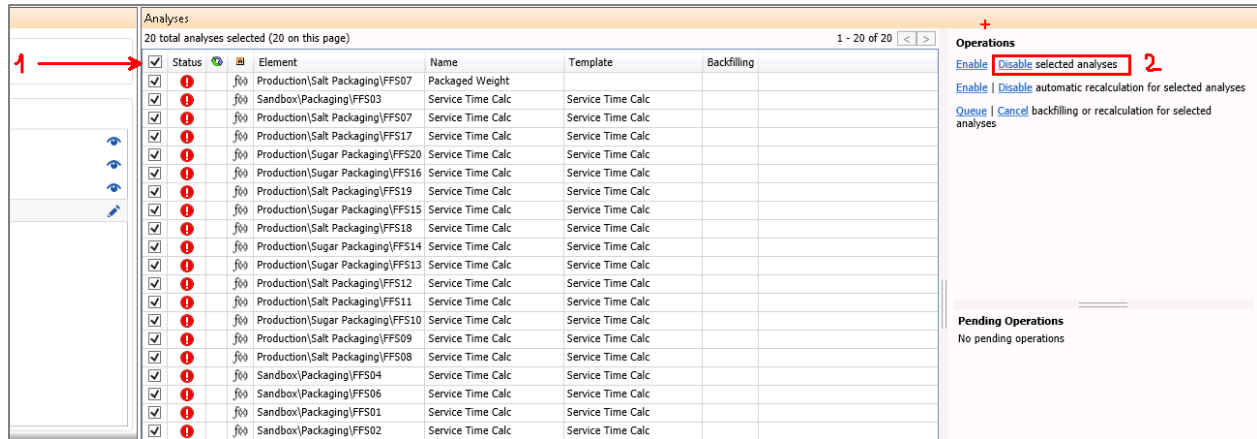

Figure 33. Select and disable the analyses in error
6. Select all the filtered analyses using the first checkbox on the top (Figure 33)
7. Disable the selected analyses (Figure 33)